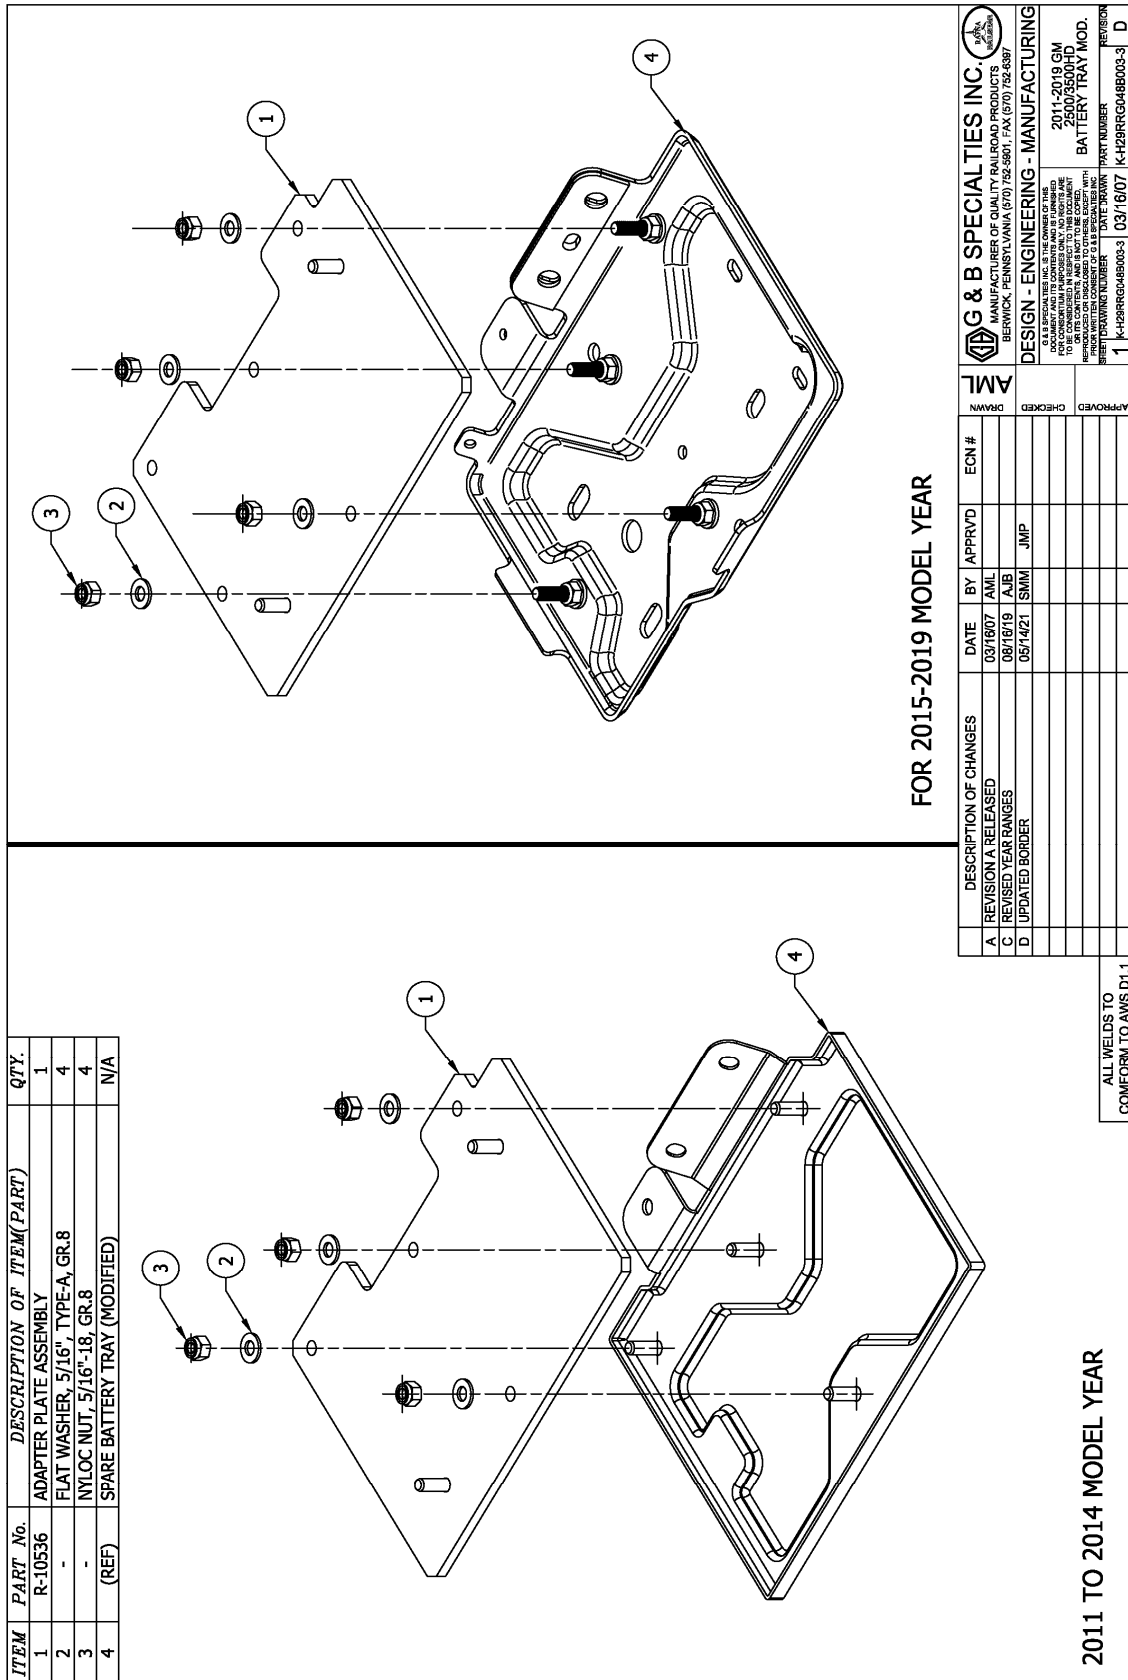

Figure 4
6. Re-install battery tray into vehicle, then install the battery tray adapter plate onto spare battery and secure with (4) 5/16" flat washers and (4) 5/16"-18 Nylock nuts. (Figure 4)